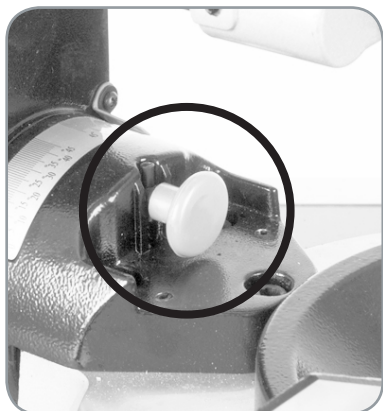

Fig. 16
- Pull out the Right Hand Bevel Access Locking Pin and twist it ¼ of a turn to hold it in the disengaged position. This will enable access to the right hand bevel angles. **(Fig. 16)**